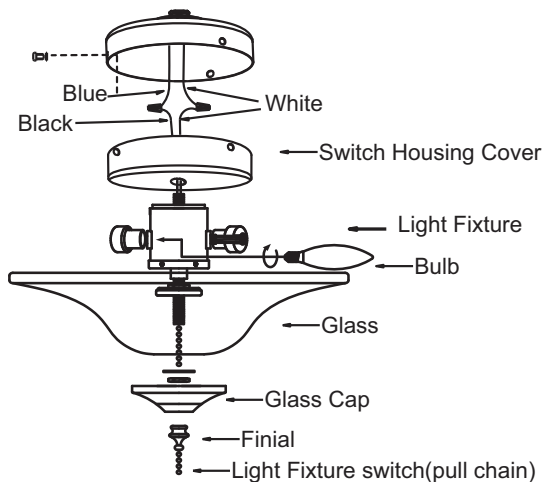

Fig.15B
B. Install light bulb (Max. 60W B10 bulb * 2pcs) into socket (*see figure 15B*).
C. Install light bulb (Max. 60W B10 bulb * 3pcs) into socket (*see figure 15B*).
Place bowl glass cover on light kit metal nut (rubber side on the top), glass cap and finial provided. (*see figure 15B*).